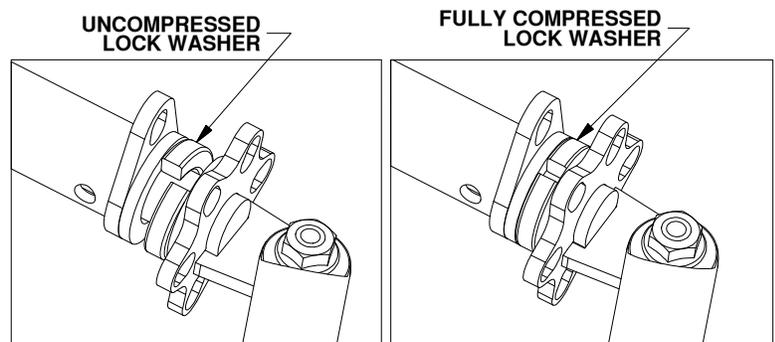

Figure A2: Clamp handle.
- 2. **Secure clamping bar:** After locating the optimal location for the bar, tighten the bar around the frame with the handle until the lock washer is fully compressed as shown in Figure A2, then tighten an additional 1/4 turn. This position should be noted so that the clamping bar is in the same location every time the bike is latched into the base. Always flip the handle up away from the ground before moving the bike with the clamping bar attached.